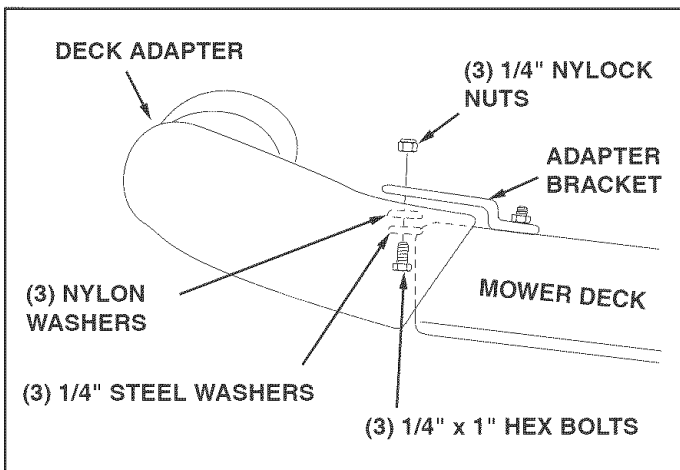

FIGURE 26
- With deck adapter positioned correctly over the discharge opening, use the adapter bracket as a template and drill three 9/32" diameter holes in the top of the deck adapter. See figure 26.
- Bolt deck adapter to bracket using three 1/4" x 1" bolts, nylon washers, 1/4" flat washers and 1/4" nylock nuts. Nylon washers should be against the inside of the deck adapter. See figure 26.